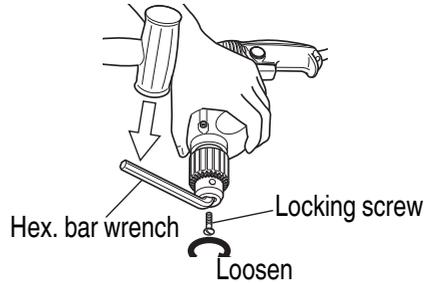

Fig. 7
- (1) Removing chuck from drill (**Fig. 7**)